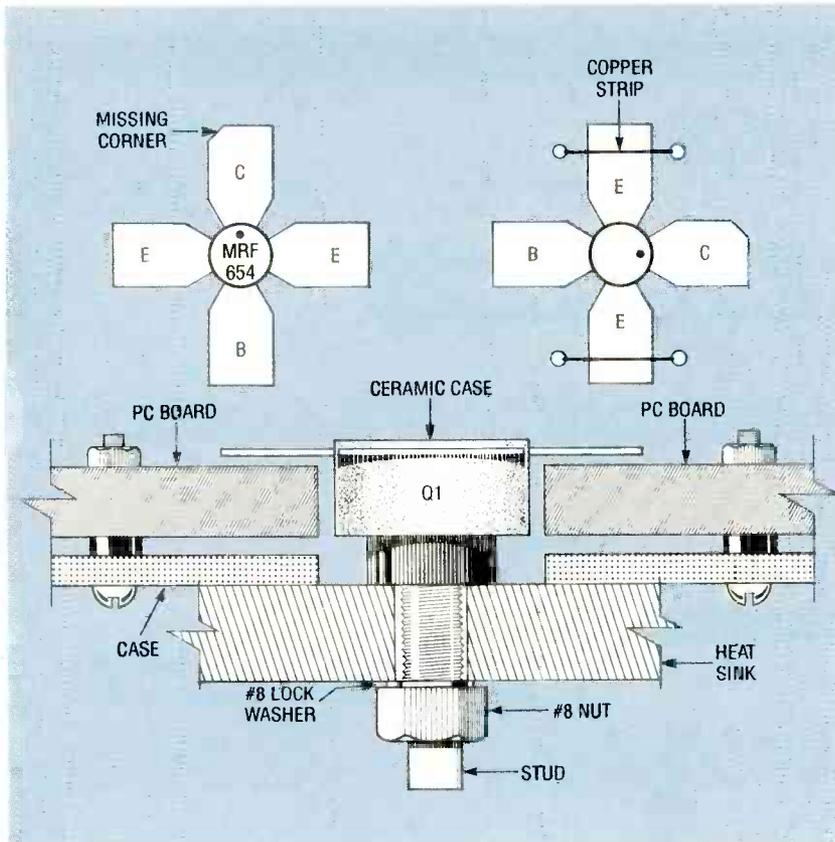

FIG. 4—Q1 IS INSTALLED so that no part of its case touches the board. Heatsinking is very important.
FIG. 4—THE DB-25 CONNECTOR attaches to the board with a length of ribbon cable and a 26-pin header and matching connector. The LM340K regulator mounts on the back panel of the T1003 case along with a heatsink.
them mount directly on the PC board, but one of them (IC22) is an LM340K in a TO-3 case that must be mounted on the back panel of the T1003 case. Mount the regulator, along with an appropriate heatsink, on the back panel and hardwire it to the board. Figure 4 shows the completed T1003 board.
**FIG. 4—ARCNET offers a hybrid star/bus topology that runs on twisted-pair cabling. Note that the middle cluster of PC's is wired as a bus, which is itself connected to a hub that services another PC and cluster in a star configuration.**
runs at 2.5 Mbps over RG-62 coax or UTP. ARCnet has a flexible topology configuration, including daisy chained coax (like thin Ethernet), coax star, and twisted pair star. With proper network interface cards, ARCnet also supports hybrid bus/star topologies, as shown in Fig. 4.
two larger holes near each emitter lead of Q1. Thread a short length of copper foil, 1/16-inch wide (cut from foil tape) through those holes and solder it to both sides of the board after Q1 is installed. The copper solidly grounds both emitter leads to the top and bottom ground planes (see Fig. 4).
After Q1 is soldered in place, mount the PC board inside the case, as shown in Fig. 4, so that the bottom of Q1 is level with the outside surface of the case. Use a metal case for proper shielding. Mount the board with the four corner mounting holes and 4-40 or 6-32 screws. Use washers or available spacers that will